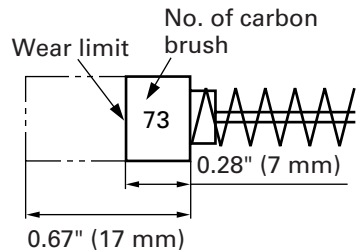

Fig. 10
3. Inspecting the carbon brushes (Fig. 10)
NOTE: Use HITACHI carbon brush No. 73 indicated in Fig. 10.